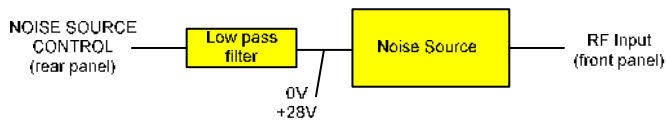

Fig. 2–73: Preparation for calibration
- Provide the voltage supply for the noise source by connecting it to the +28 V connector of the analyzer (labeled NOISE SOURCE CONTROL on the rear panel of the instrument) via a coax cable and the lowpass filter. Connect the lowpass filter between the noise source itself and the NOISE SOURCE CONTROL connector of the analyzer as shown in Fig. 2–73.